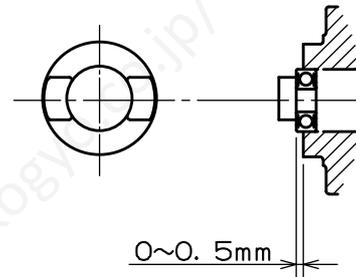

Fig.18
- ① Install Ball bearings(12),(15) onto Chain wheel(14).
Set up Ball bearing(15) to protrude 0~0.5 mm from the non-jut end face of Chain wheel as shown in Fig. 18.
- ② Install Retaining ring(11) in Casing(1).
- ③ Install Chain guide(13) in Casing(1), then install Chain wheel(14) from the gear side.
- ④ In case Lock screw(21) has not been removed: Install Chain guide(13) and Chain wheel(14), then install Retaining ring(11).